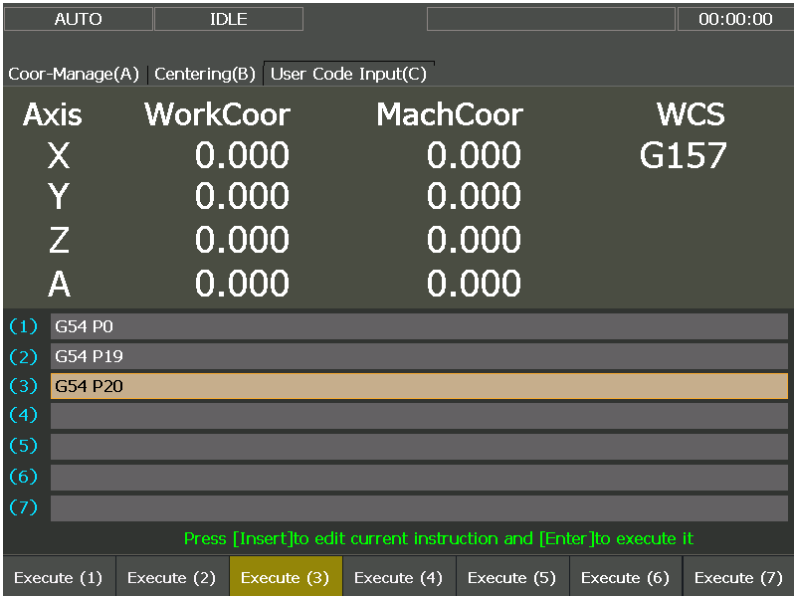

Fig. 3-75 User code input screen
[User Code Input (C)] screen under [Advanced] function area is as shown in Fig. 3-75.